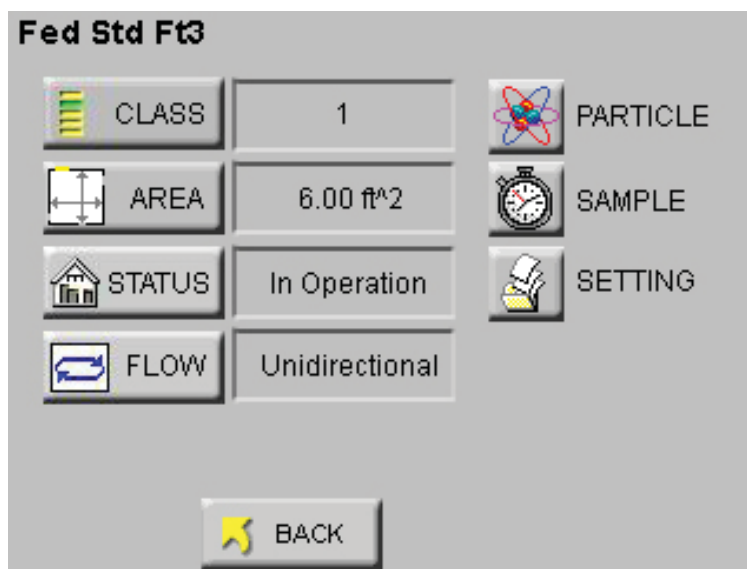

Figure 6-100 Reports Setup Screen No Locations
- When "REPORTS" are enabled, the "LOC" and "SAVE" buttons are displayed only when there are at least the minimum number of locations needed for the recipe are available. See Figure 6-100.